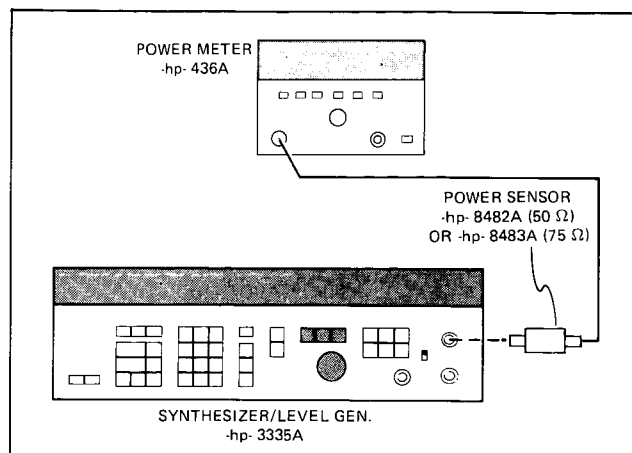

Figure 4-6. Flatness Test (10 MHz to 80 MHz).
k. Disconnect the test set-up of Figure 4-5 and connect the test set-up shown in Figure 4-6.